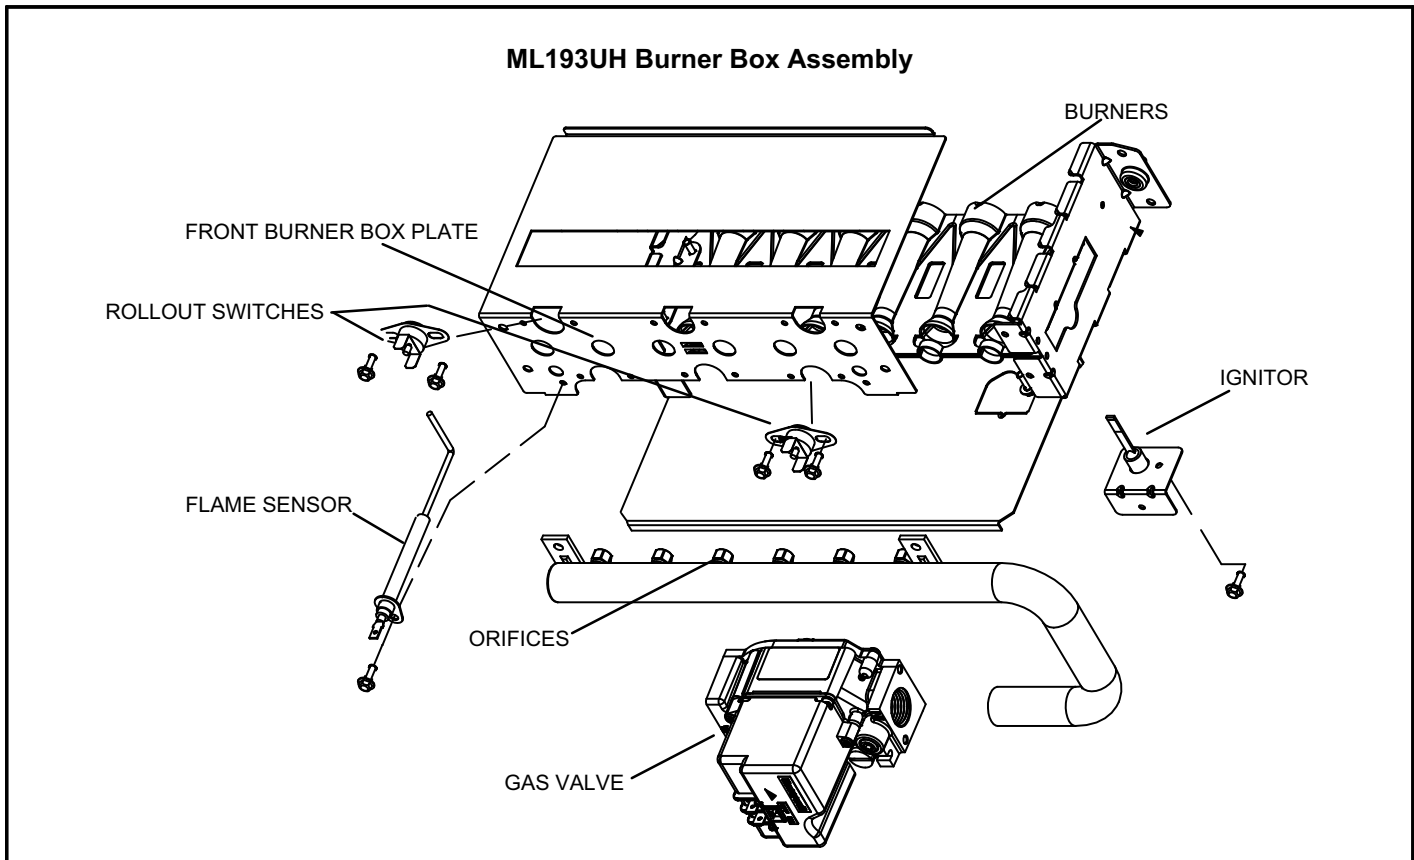

FIGURE 10
The hot surface ignition control system consisting of an integrated control (figure 6 with control terminal designations in tables 4 and 5), flame sensor and ignitor (figure 10). The integrated control and ignitor work in combination to ensure furnace ignition and ignitor durability. The integrated control, controls all major furnace operations. The integrated control also features a RED LED for troubleshooting and two accessory terminals rated at (1) one amp. See table 6 for troubleshooting diagnostic codes. The 120 volt ignitor is made from a high strength, silicon nitride material that provides long life and trouble free maintenance.
1. Ignitor (Figure 10)
2. Flame Sensor (Figure 10)
3. Flame Rollout Switches (Figure 10)